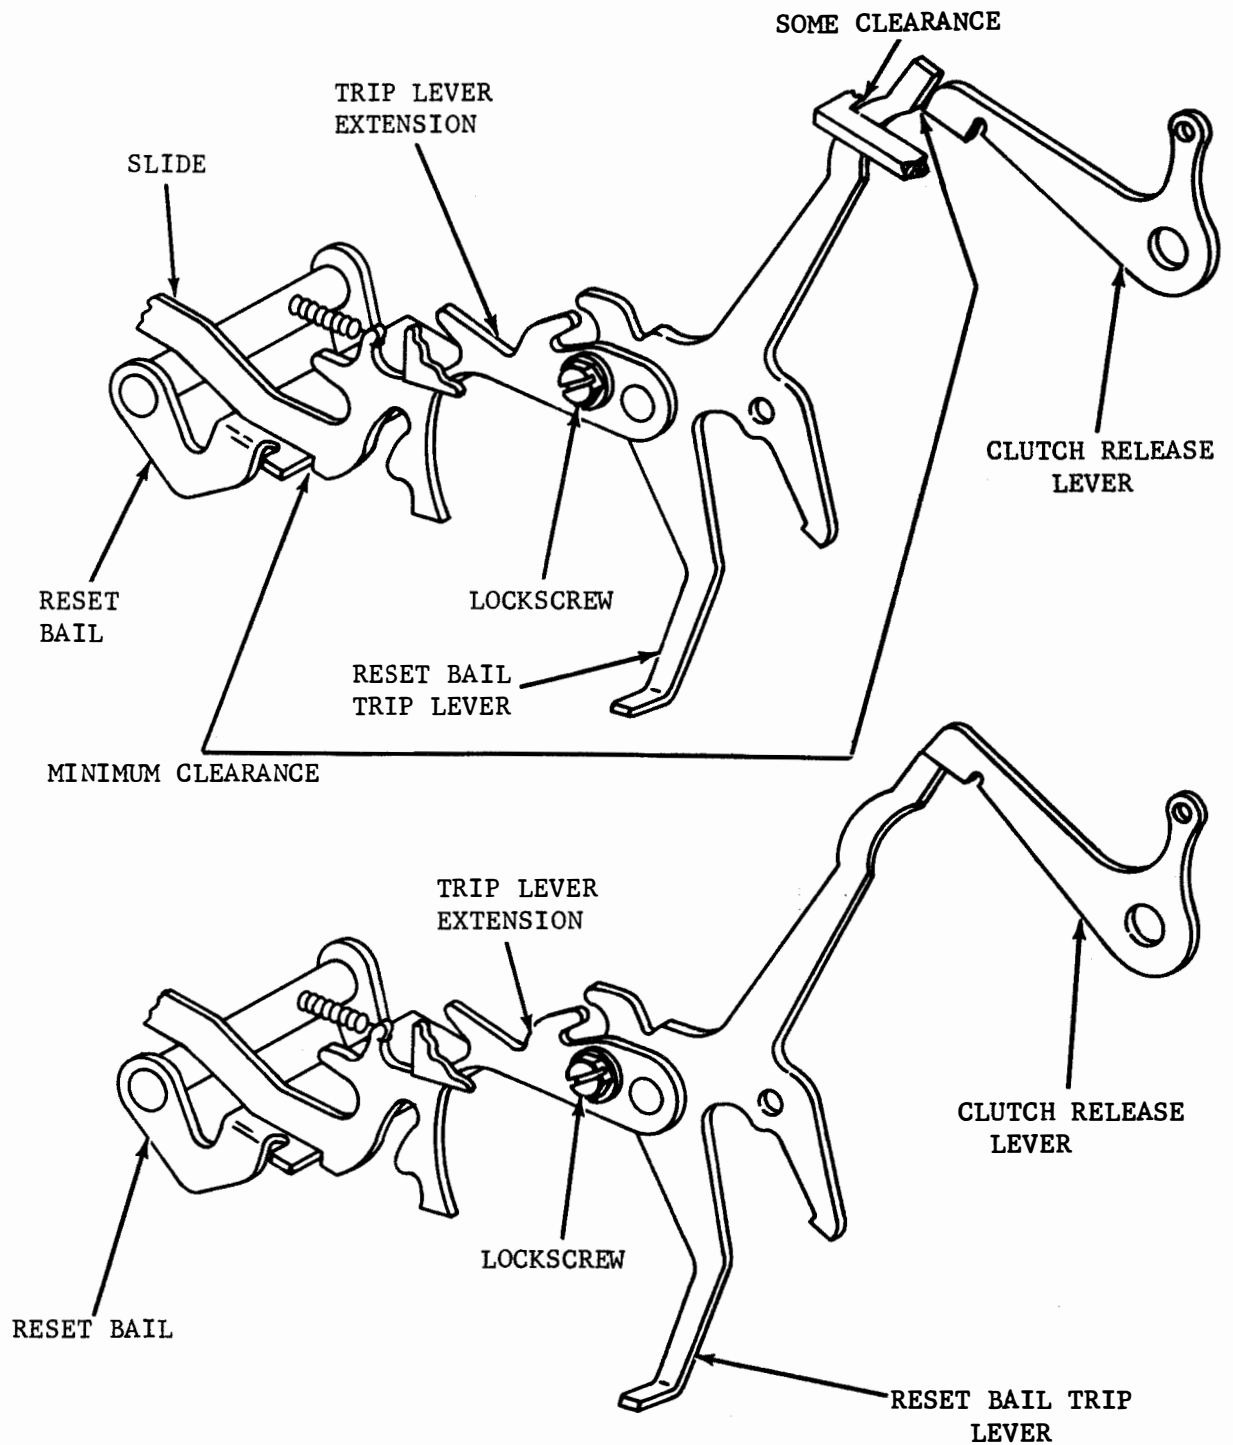

Figure 4
3.06 RESET BAIL TRIP LEVER ADJUSTMENT (Figure 4)